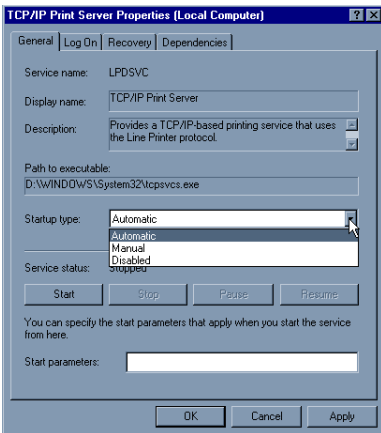

Figure 10—TCP/IP Print Server Properties
7. Scroll to find **TCP/IP Print Server**, and then double-click it. This opens the TCP/IP Print Server Properties dialog (see Figure 10).